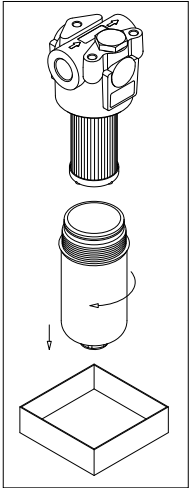

fig. 14
- (Fig. 14) If no drain plug is provided, unscrew the filter bowl after placing a vessel to collect the operating fluid